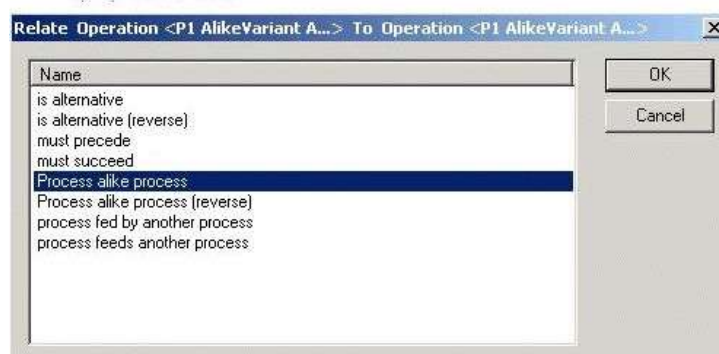

Figure 216: Marking Processes of the same Type via Relation
- 4) Click **OK** button to confirm. Both processes are marked as processes of the same type. Please refer to the Figure 216.